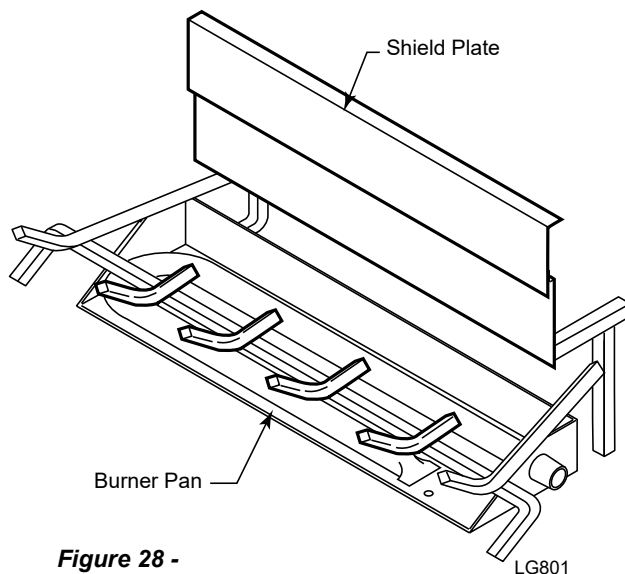

Figure 28 -
1. Slide shield plate down back of burner pan. *Figure 28*